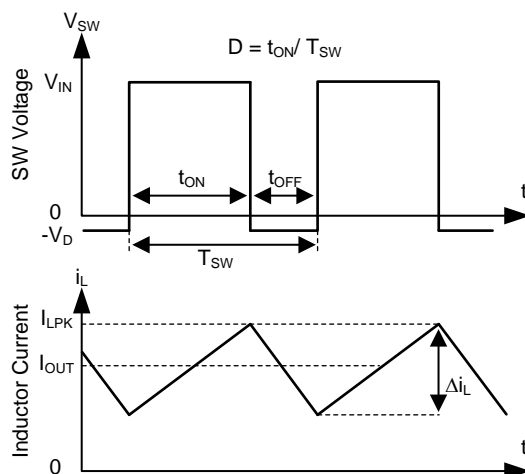

Figure 13. SW Node and Inductor Current Waveforms in Continuous Conduction Mode (CCM)
The following operating description of the LMR23630-Q1 refers to the Functional Block Diagram and to the waveforms in Figure 13. LMR23630-Q1 is a step-down synchronous buck regulator with integrated high-side (HS) and low-side (LS) switches (synchronous rectifier). The LMR23630-Q1 supplies a regulated output voltage by turning on the HS and LS NMOS switches with controlled duty cycle. During high-side switch ON-time, the SW pin voltage swings up to approximately V_{IN} , and the inductor current i_L increase with linear slope $(V_{IN} - V_{OUT}) / L$. When the HS switch is turned off by the control logic, the LS switch is turned on after an anti-shoot-through dead time. Inductor current discharges through the LS switch with a slope of $-V_{OUT} / L$. The control parameter of a buck converter is defined as duty cycle $D = t_{ON} / T_{SW}$, where t_{ON} is the high-side switch ON-time and T_{SW} is the switching period. The regulator control loop maintains a constant output voltage by adjusting the duty cycle D . In an ideal buck converter, where losses are ignored, D is proportional to the output voltage and inversely proportional to the input voltage: $D = V_{OUT} / V_{IN}$.